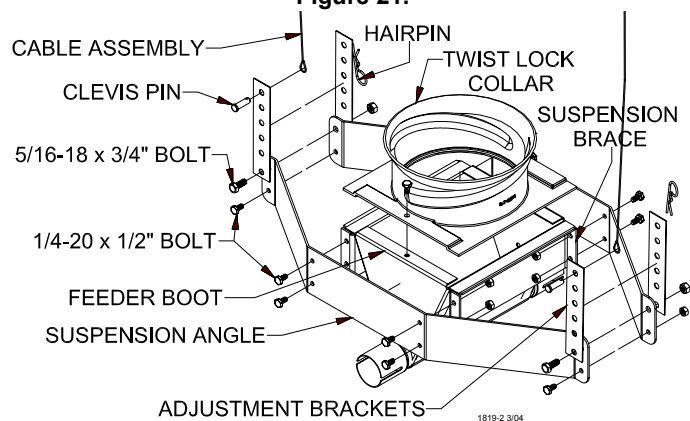

Figure 22.
4. Assemble suspension angles and suspension braces around feeder line boot (single or twin), using 1/4-20 x 1/2" Hex bolts and nuts (supplied in hardware package), see figure 22.
5. Assemble the twist lock collar to the top of the feeder line boot (single or twin) using 1/4-20 x 1/2" bolts and lock nuts (supplied in hardware package), see figure 22.
7. Two cable assemblies (cable with a sleeve clamp and a 5/32 thimble) are supplied with the suspension kit to support the hopper. Attach the cable assemblies to the adjustment brackets using the top holes of the adjustment brackets, see figure 22.